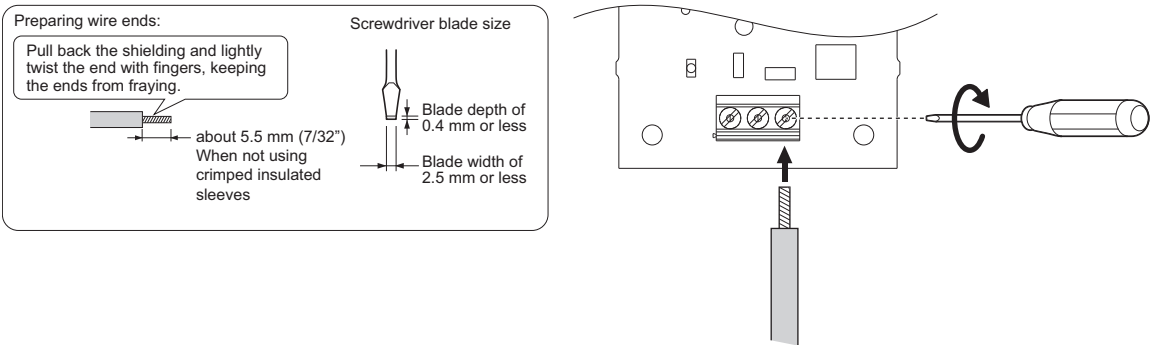

Figure 45 Wire the Option Plug
- 2. Use a flat-blade screwdriver to loosen the screws on the terminal block TB1, connect wiring to the 24, 0, and FE terminals as shown in **Figure 45**, then tighten the terminal screws to hold wiring in place.